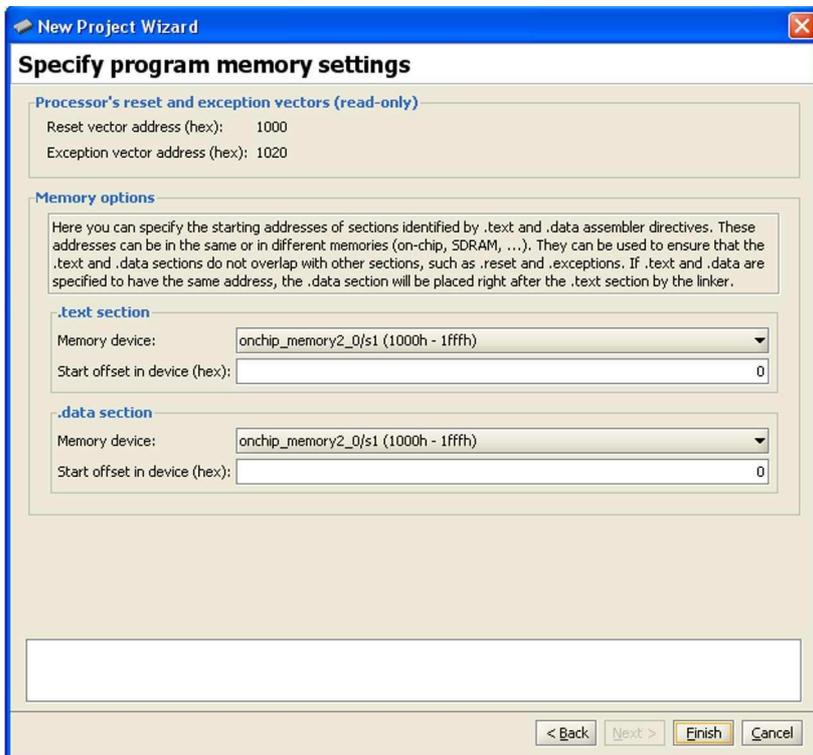

Figure 25. The program memory settings window.
10. The Altera Monitor Program also needs to know where to load the application program. In our case, this is the memory block in the FPGA device. The SOPC Builder assigned the name **onchip_memory2_0** to this block. As shown in Figure 25, the Monitor Program has already selected the correct memory device.
An application program written in the C language can be handled in the same way as the assembly-language program. A C program that implements our simple task is given in Figure 25. Enter this code into a file called lights.c.